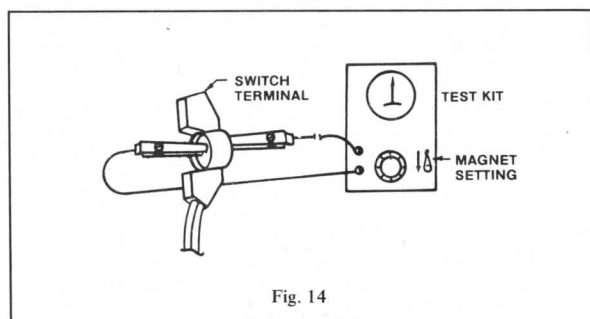

Fig. 14
- b. With Test Kit on "Magnet" setting and dial set for maximum amperage, check for switch closure and continuity through the switch by touching clips to opposite switch terminal contacts as shown in Figure 14.
- (1) If switch is closed, essentially full amperage reading will be obtained (approaching maximum needle deflection to the right).
- (2) If switch is open, no current will be shown (no meter needle deflection).